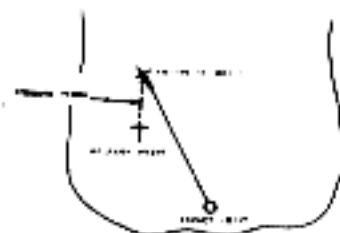

Figure 8-15. $D = KAV$
5. Forward throw must also be calculated when using the $D = KAV$ formula. Forward throw is the lateral distance covered by the jumper or bundle from the time he or it leaves the aircraft until the time the parachute is fully deployed. Forward throw for Army aircraft is calculated by taking 1/2 the speed of the aircraft. To compensate for forward throw walk on the back azimuth of the drop heading half the speed of the aircraft in meters (figure 8-15).